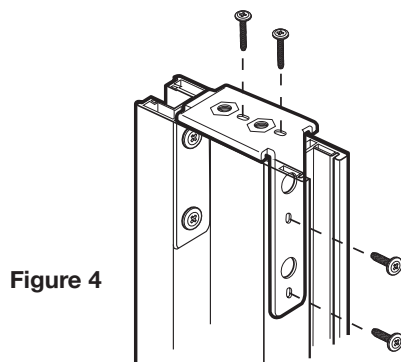

Figure 4
Lay one of the Stiles (A) onto work surface. Make sure the side with the large holes are facing outward. Insert U bracket (G) into the Top of the stile into the outside channel and the innermost channel. The side of the U clip with the larger holes should be facing the outside edge of the door. The top of the U clip will rest on the top of the stile once inserted. See Figure 4.
Insert two small screws into the oval holes on top of the U bracket and secure to the top of the stile. Take 2 small screws and secure into the oval holes in the outside of U bracket (G). This will be the outside channel of the stile. See Figure 4.